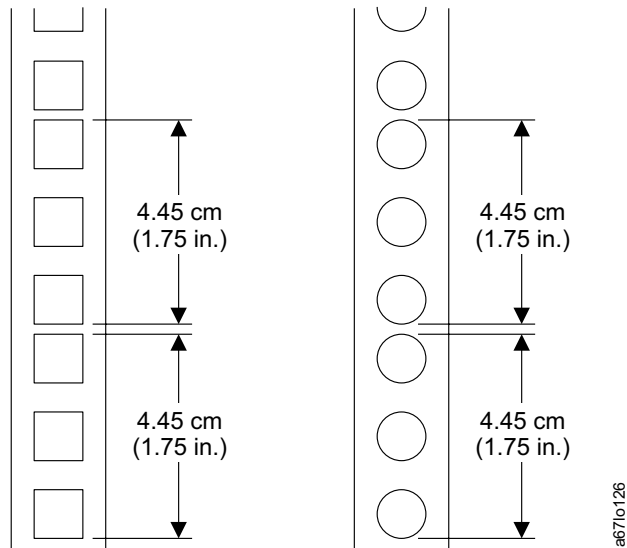

Figure 14. Example of standard racks
**Note:** Each U is 4.45 cm (1.75 in.) and is usually marked by three holes in the rack (see Figure 14).